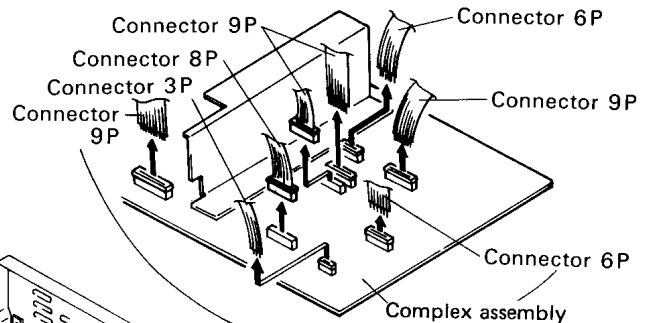

Fig. 4-2-1
2. Remove 2 screws ❶ and the belt. Apply that belt to the claw.
3. Disengage the 2 positions of claws. (Fig. 4-2-1)